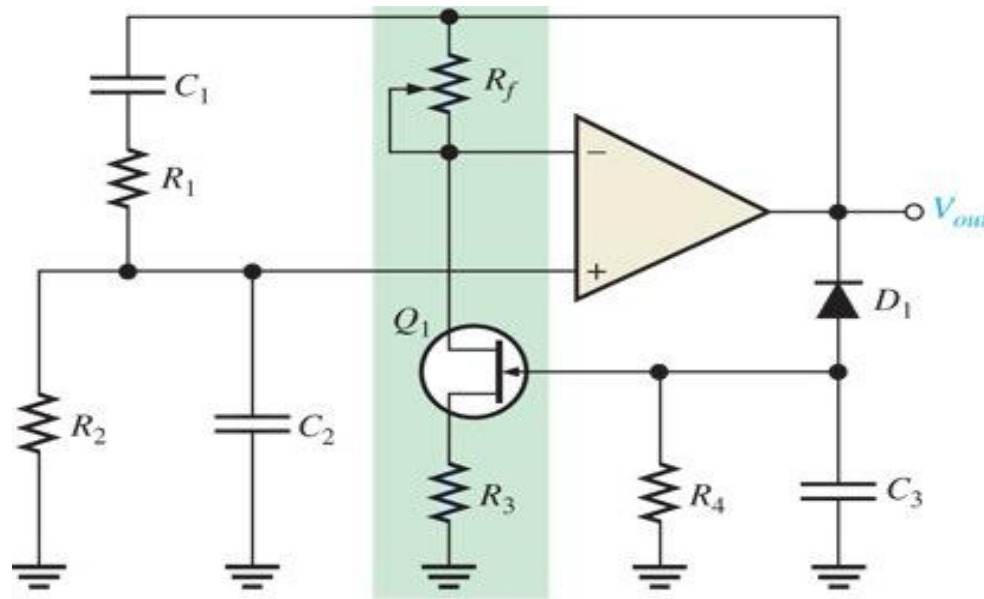

Figure 11 Self-starting Wien-bridge oscillator using a JFET in the negative feedback loop.
- A JFET stabilized Wien bridge is shown in Figure 11.